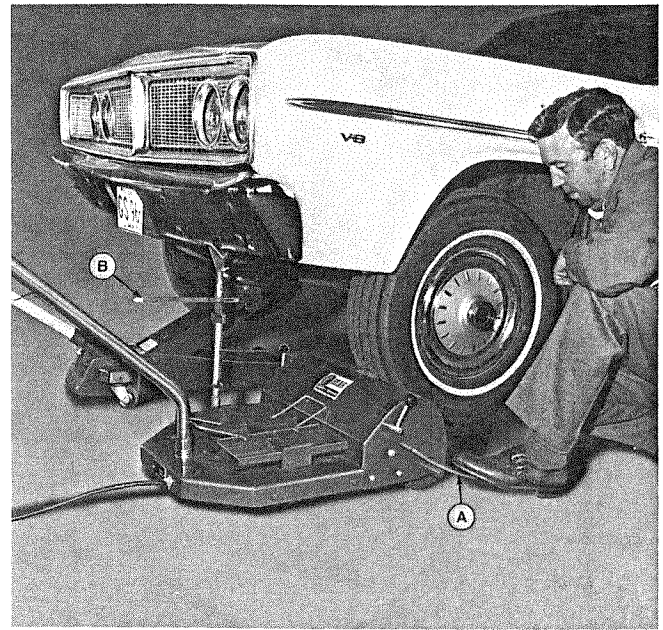

Fig. 1
2. Spinner is equipped with foot pedal, A Fig. 1, on both sides of spinner, conveniently located for operator. As motor is brought forward against tire by depressing front of foot pedal, motor is switched on — as pedal is released, motor is switched off. Brake is applied by depressing rear of foot pedal.
7. Place jiggle (vibration indicator), B Fig. 1, under the bumper or bumper bracket and adjust height so that the pointer is in a horizontal position. Be sure the pointer is readily visible by the operator.